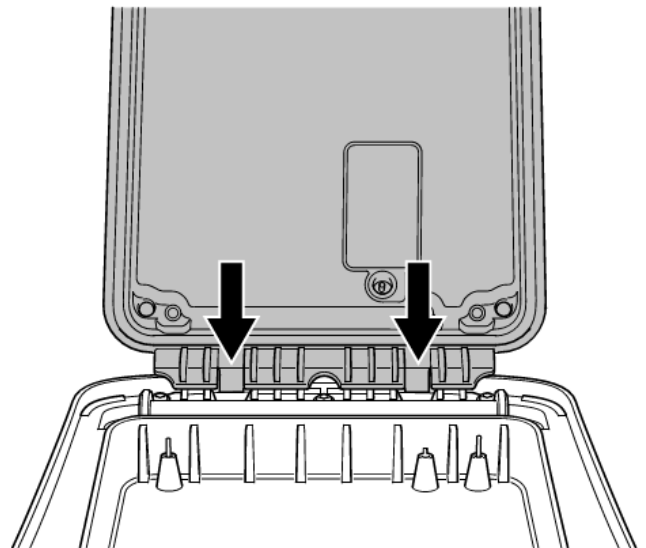

Figure 4.11: Line up the battery pack and press into position
- 4 Line up the battery pack clips with the corresponding recesses on the transmitter body and press into place (fig 4.11)